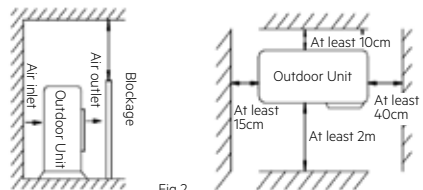

Fig 2
- The installation distance must be required as Fig. 2 shows.